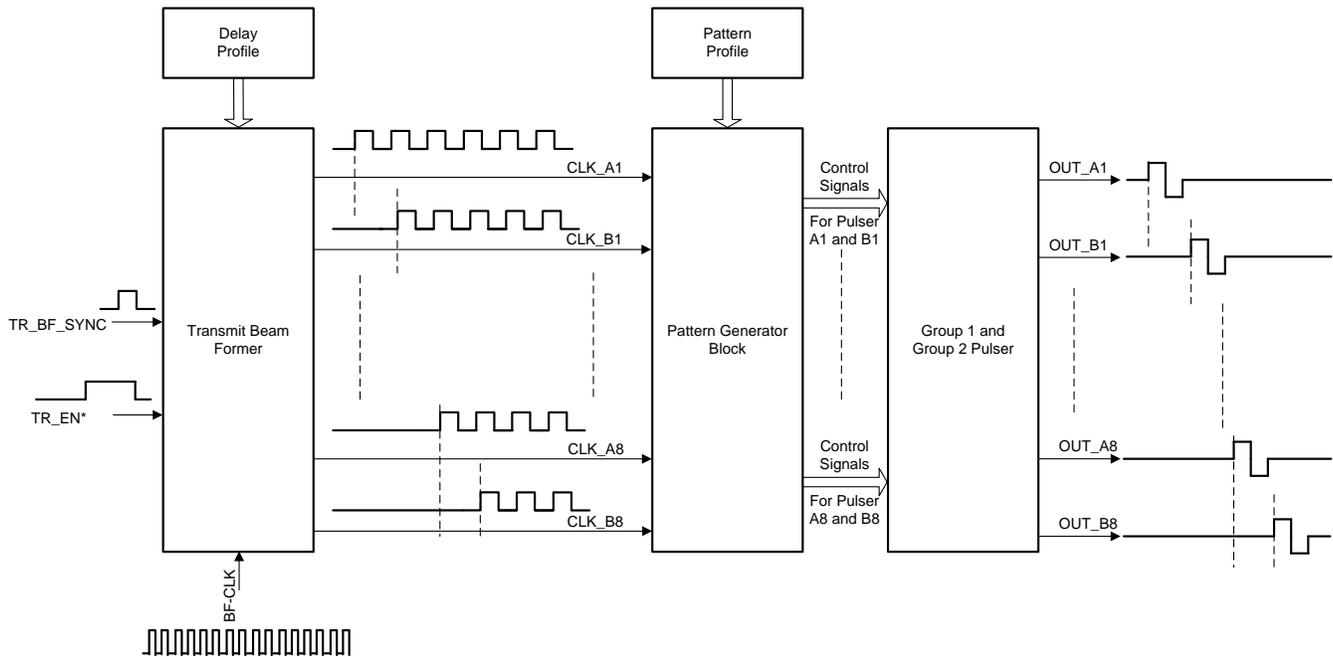

Figure 32. On-chip Beamforming Mode
2. On-chip beamforming mode: Figure 32 shows a simplified block diagram of the device in on-chip beam forming mode. In the on-chip beamforming mode, all the control signals for the pulse transitions are generated within the device. Following steps explain the sequence of operation in on-chip beamforming mode: